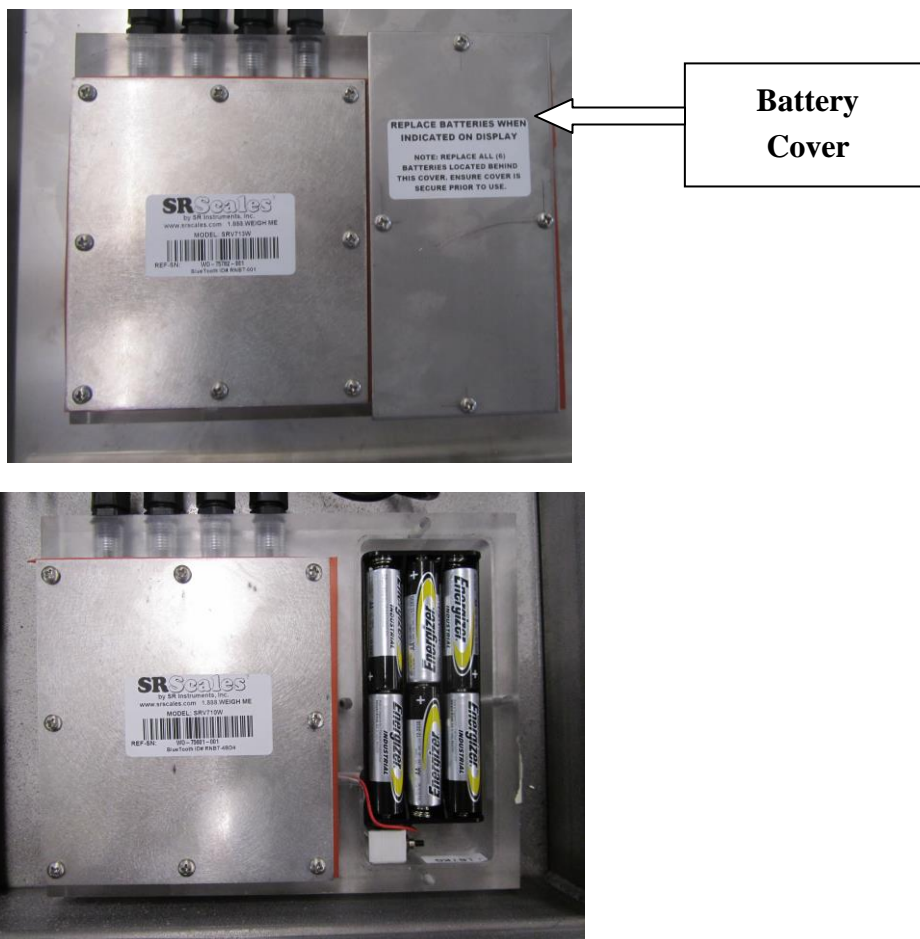

Figure 4: Battery Replacement
STEP 1: Turn the platform over and remove the four screws on the Battery Cover (Figure 4).
STEP 2: Remove and replace the six (6) “AA” cell batteries.
STEP 2: Remove the two (2) screws holding the display housing to the platform
STEP 3: Pull the display out from under the platform and remove the eight (8) screws from the display box cover pictured in Figure 4.